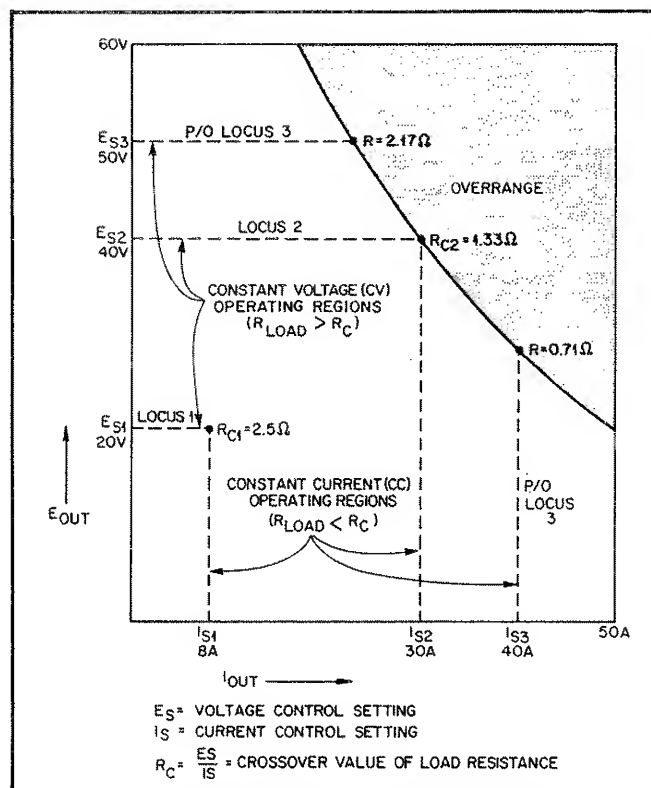

Figure 3-4. Overall Output Range with Three Sample Operating Loci
3-21 Figure 3-4 shows the overall output range of the supply, with three sample operating loci. Locus 1 is established with a VOLTAGE setting of 20V and a CURRENT setting of 8A. For any values of load resistance greater than the crossover value of 2.5 ohms, the supply operates in constant voltage mode. For values of load resistance less than the crossover value, the supply operates in constant current mode. The transition occurs smoothly and automatically; no switches need be operated or connections changed. The front-panel VOLTAGE and CURRENT lights indicate which mode is operating.
**3-24 Overrange.** The supply will be driven into overrange (shaded area of Figure 3-4) if the VOLTAGE and CURRENT controls are set above the output power rating and the load resistance falls within a critical band. For example, assume that the operator sets the VOLTAGE control at 50V and the CURRENT control at 40A, as in locus 3 on Figure 3-4. For all load resistances above 2.2 ohms (which is the critical value) the supply would operate normally in the constant voltage mode. If the load resistance were to fall much below 2.2 ohms, however, the supply would be forced into overrange. If the load resistance continued to decrease to a 0.7 ohm value, the supply would automatically come out of overrange and into the constant current mode at the 40A, 25V point. (The supply will probably go out of regulation while operating in the overrange region, refer to Paragraph 3-26.)